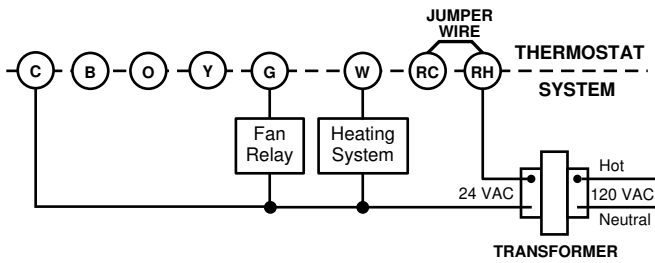

Figure 2. Typical wiring diagram for heat only, 3-wire, single transformer systems with common connection (required)
2. Connect wires beneath terminal screws on base using appropriate wiring schematic (see figs. 2 through 7).